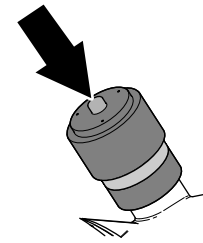

Figure 122
6. If a red band displays in the service indicator, press the reset button at the end of the indicator (Figure 122).